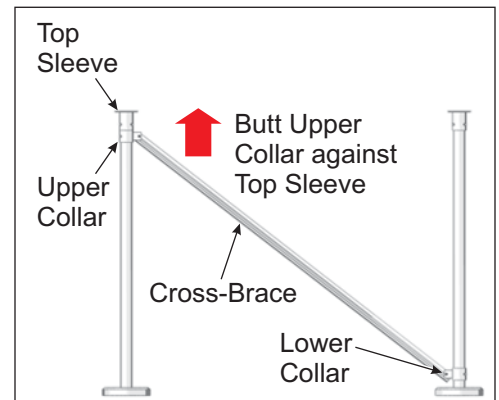

Figure 3-6: Position and secure Diagonal Cross-Bracing
- A. Slide upper Collar upward until it butts against the bottom of the Top Sleeve, pulling the Cross-Brace and lower Collar along with it. (See Figure 3-6)